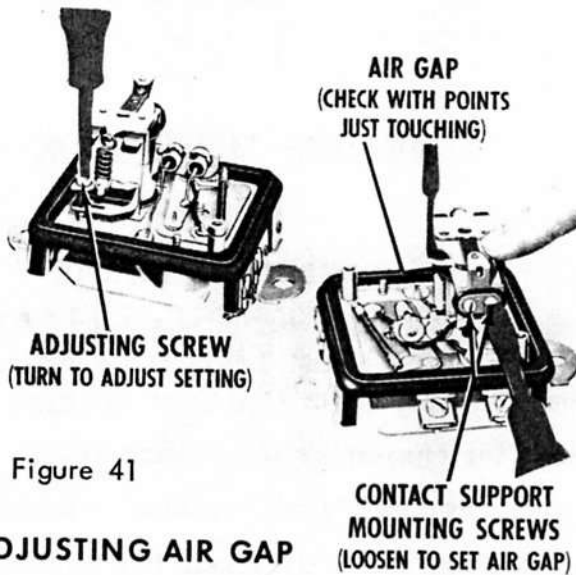

Figure 41
1. After cleaning the contacts, set the air gap to .070 inch as shown in Figure 41.